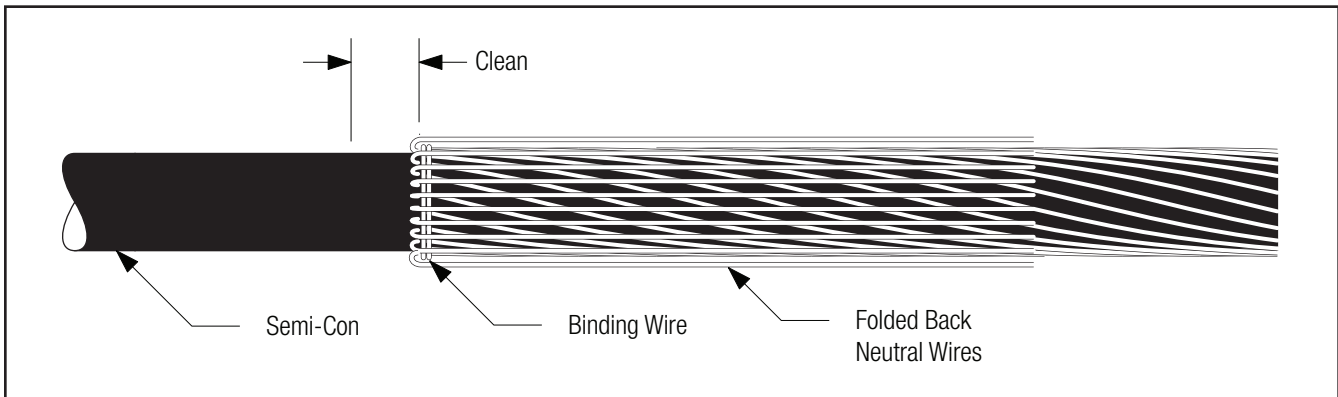

Figure 3
- 2.4.1 Clean cable semi-con as shown (*Figure 3*). **Do not use cable cleaning solvent.**